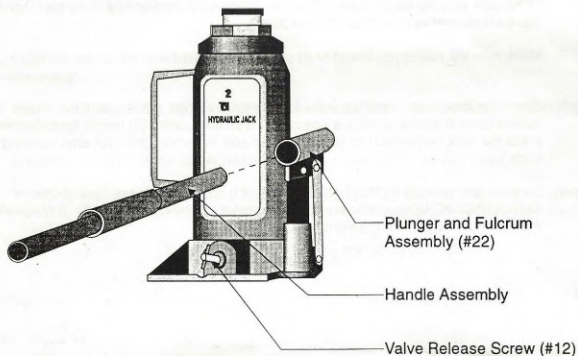

Figure 3 -- Inserting the Handle Assembly
Step 5: Place the notched end of the Handle Assembly on the VALVE RELEASE SCREW (#12) and turn clockwise to close the Valve Release (see Figure 3).
Step 6: Place one end of the Handle Assembly into the PLUNGER AND FULCRUM ASSEMBLY (#22) as shown in Figure 3.